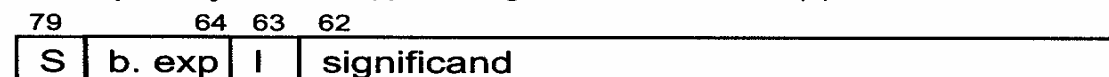

Figure 20-1. 80x87 Data Formats
- respectively, and are shown in Figure 20-1.